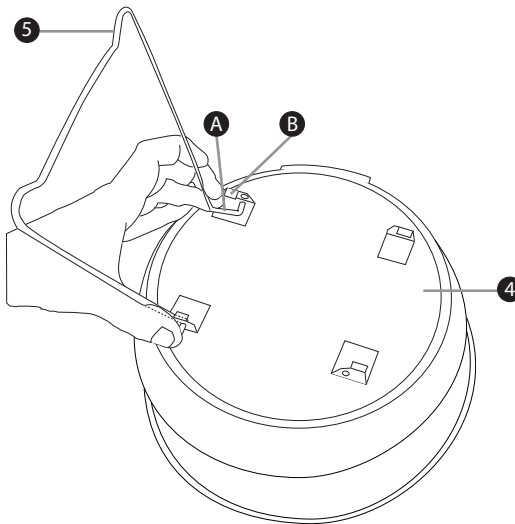

Fig. 1
- ◆ In order to insert the brackets of the feet **5** into the holes in the fire pan **4**, push the ends together a little (see Fig. 1).